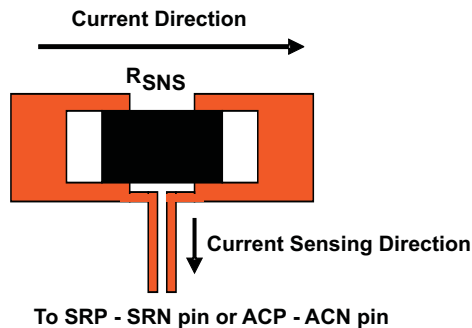

Figure 24. Sensing Resistor PCB Layout
4. The charging current sensing resistor should be placed right next to the inductor output. Route the sense leads connected across the sensing resistor back to the IC in same layer, close to each other (minimize loop area) and do not route the sense leads through a high-current path (see Figure 24 for Kelvin connection for best current accuracy). Place decoupling capacitor on these traces next to the IC.